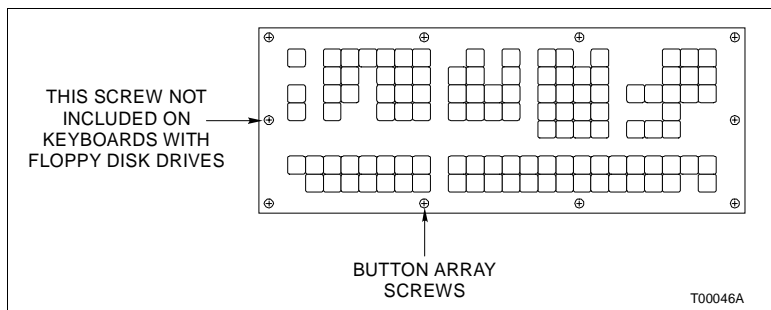

Figure PR56-1. Keyboard Button Array
2. Use the Phillips head screwdriver to remove the nine button array screws that secure the keyboard button array to the keyboard base (Fig. PR56-1).